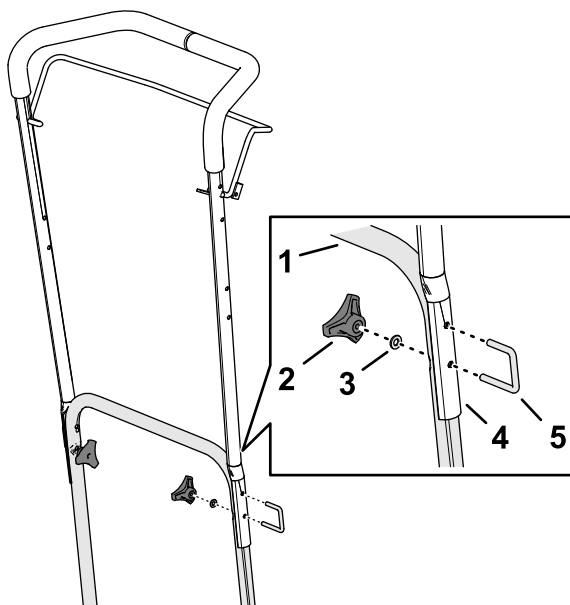

**Figure 8**
1. Align the holes on the upper handlebar with the holes in the lower handlebar (Figure 8).